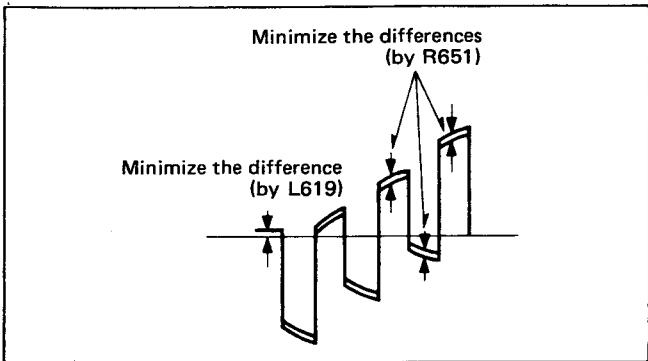

Fig. 34
- Adjust Delay Line Adj. (R651) and Delay Line Matching Trans. (L619) to achieve waveform shown in Fig. 34.